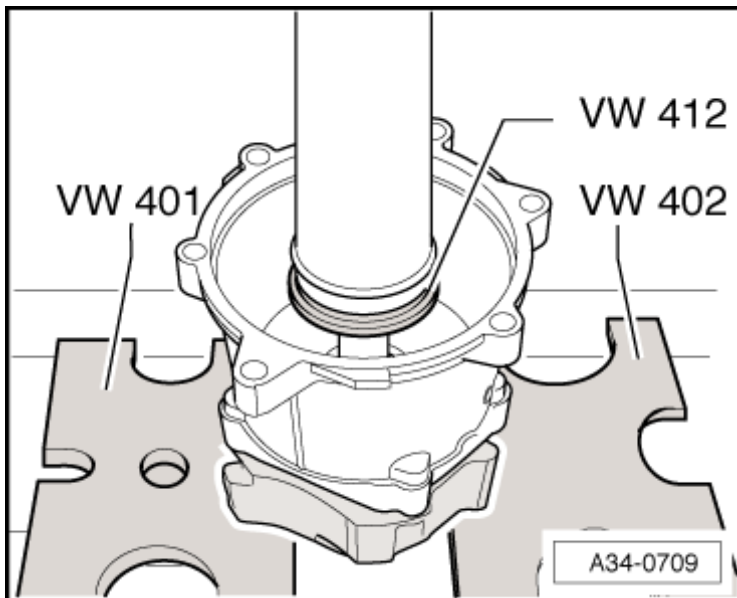

Fig. 48: Pressing Out Flange Shaft
- Removing, refer to **Fig. 48**